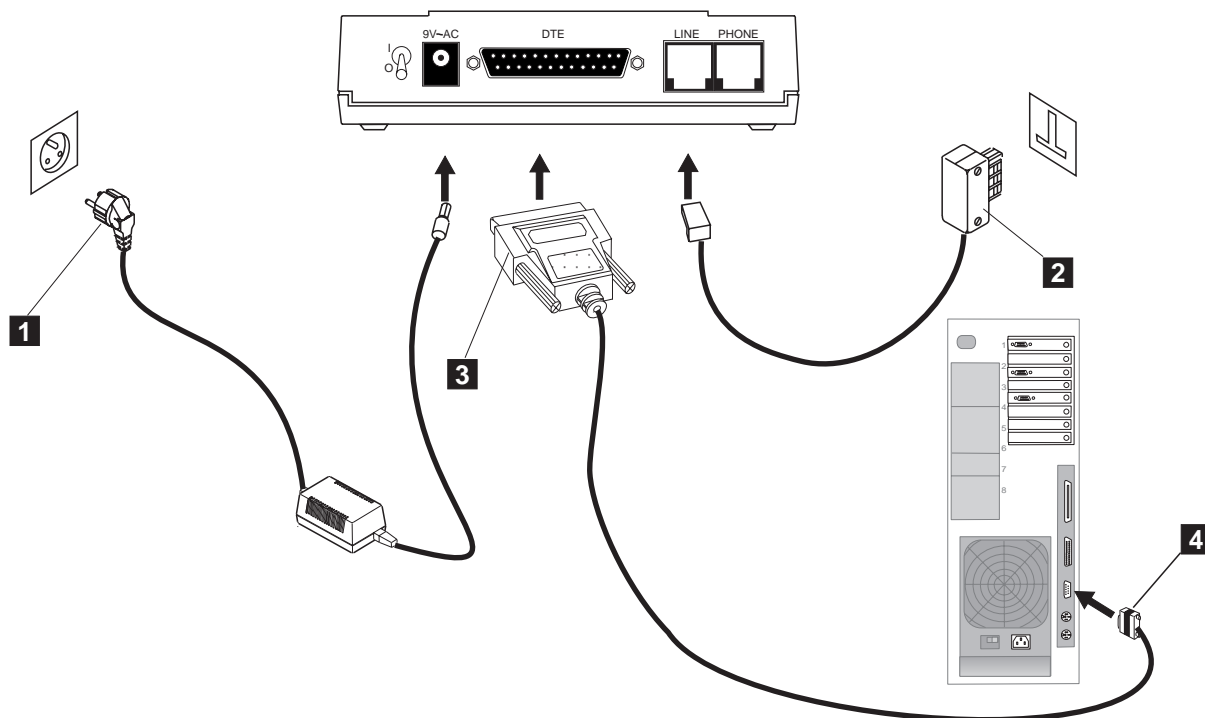

Figure 1-78. Connecting the 9585 (Port COM1) to the Hayes
- **9585**, Figure 1-78 on page 1-67.